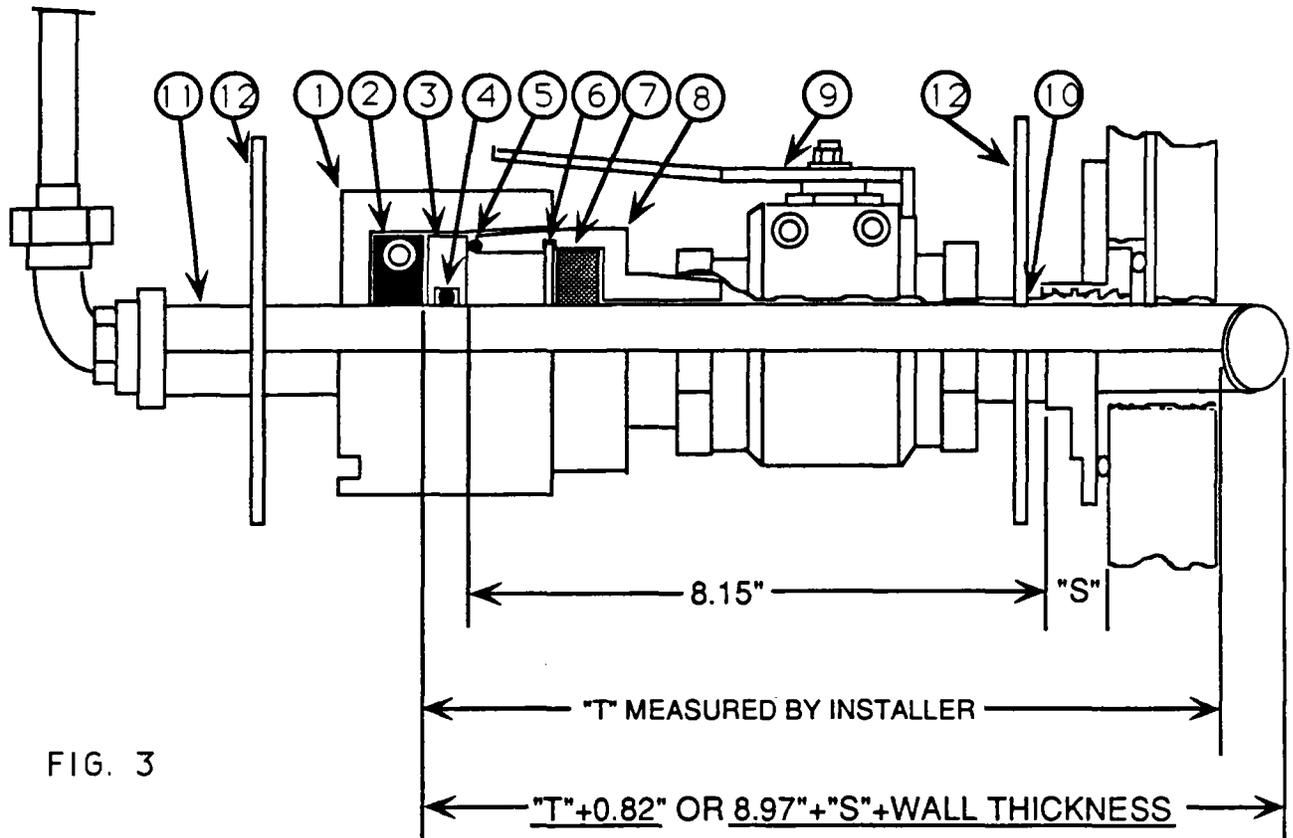

FIG. 3
6. Refer to Figure 3. Route the sensor cables downstream to exit.